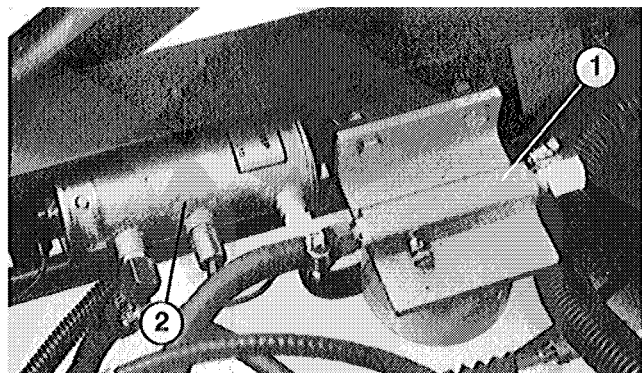

Figure 38
FUEL SYSTEM (Fig. 38–40)
2. Fuel filter/water separator is mounted on inner side of right frame rail (Fig. 38).
2. Fuel pump is mounted on inner side of right frame rail (Fig. 38).